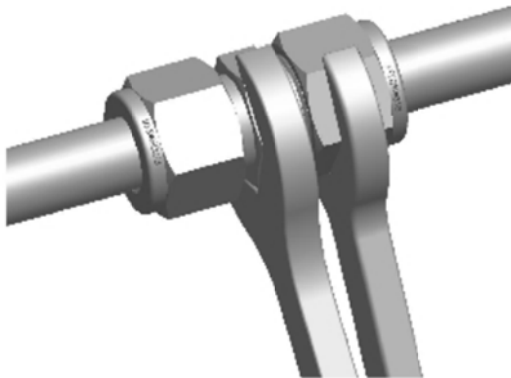

Figure 9
4.3.5 Install the tubing with preset ferrules into the fitting body according to the steps in 4.2.2 (reassembly to other bodies not initially installed), as shown in Figure 9.